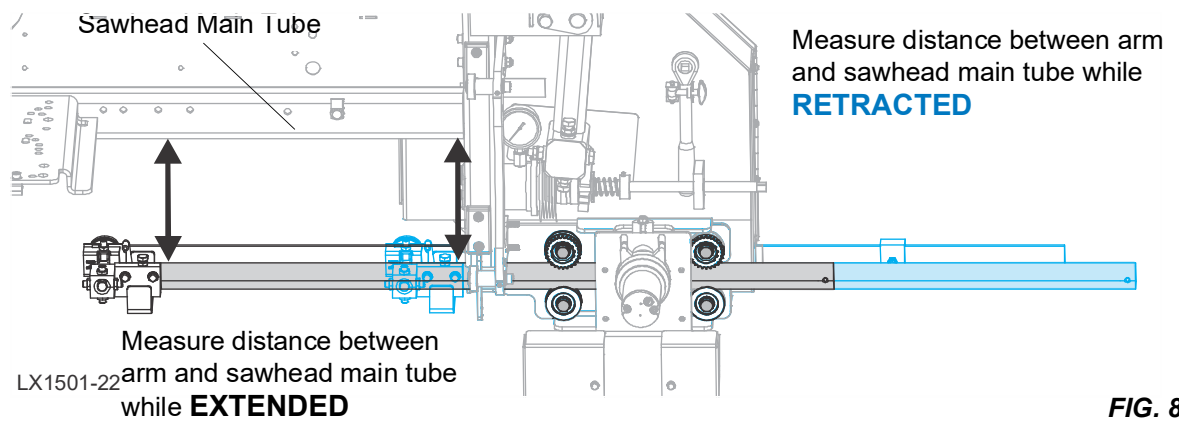

FIG. 8-1
4. Adjust the blade guide arm to within 1/2" (13 mm) of fully retracted (blue/right position in Figure 8-1).
5. Measure the distance between the sawhead main tube and the blade guide arm. See Fig. 8-1.
7. Measure the distance between the sawhead main tube and the blade guide arm. See Fig. 8-1.
9. Fully extend the blade guide arm. See Fig.8-1.